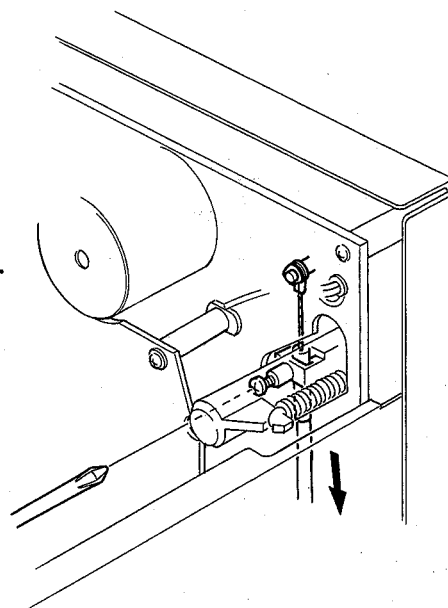

Fig. 5.18.2
- (2) With pushing the Eject Arm by hand, loosen the screw and then pull the Eject Wire in the direction of the arrow until it stops as shown in Fig. 5.18.2.
- (3) Tighten the screw, then apply a quantity of lock tight paint.